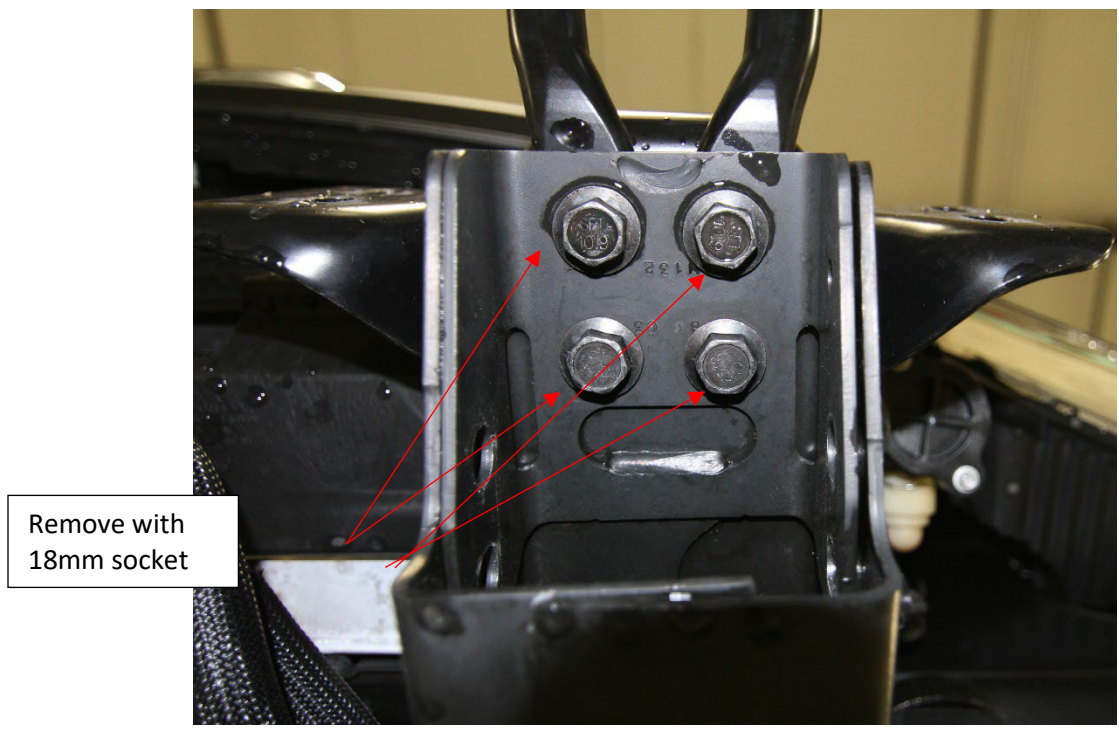

Figure 3
4. With the bumper off the vehicle, you can now remove the tow hooks by removing the four 18mm bolts located under the top of frame rail. (Fig. 3)